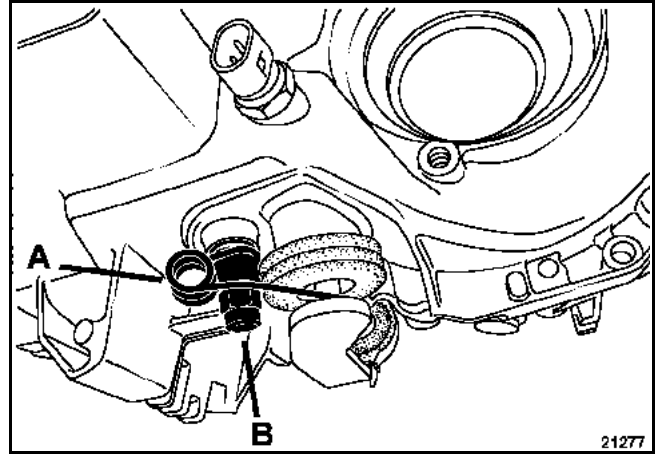

Fig. 1
- Remove the return spring (A) (**Fig. 1**) and the point of resistance of 5th gear (B) (**Fig. 1**).